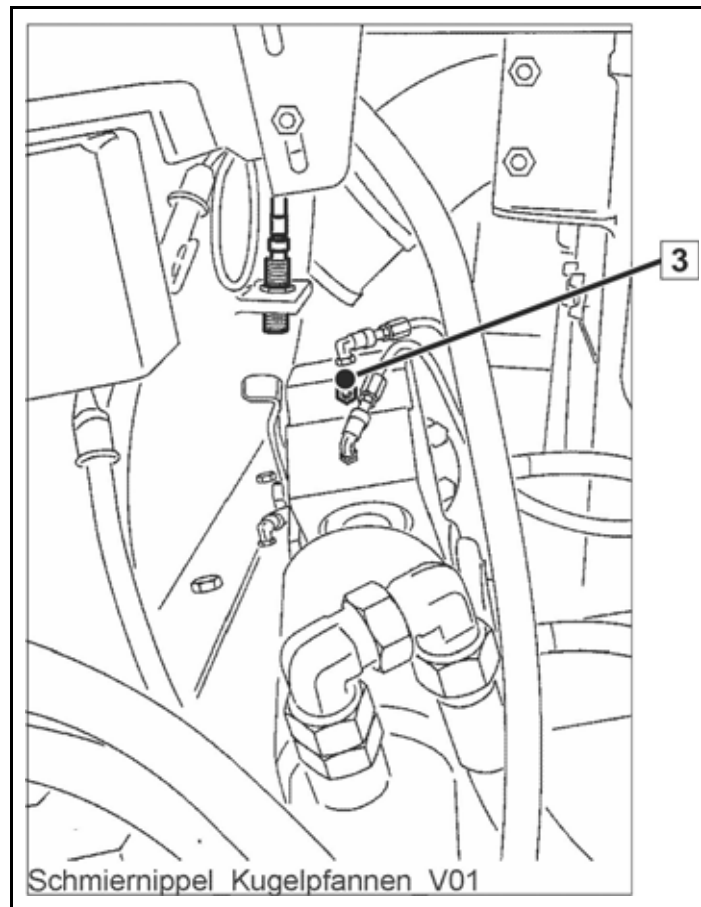

Fig. 337
The additional grease nipples, e.g. (1) (**Fig. 337**) do not have to be lubricated!